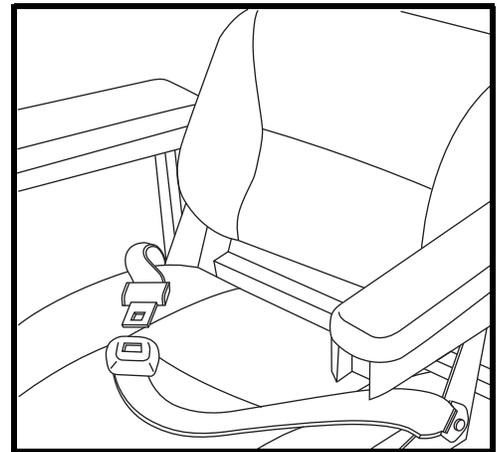

Figure 19. Positioning Belt
Your scooter seat may be equipped with an auto-type positioning belt that can be adjusted for operator comfort. See figure 19. The positioning belt is designed to help support the operator so that he or she does not slide down or forward in the seat. The positioning belt is not designed for use as a restraining device.
1. Insert the metal tab on the right side of the belt into the plastic housing on the opposite strap until you hear a “click.” See figure 19.